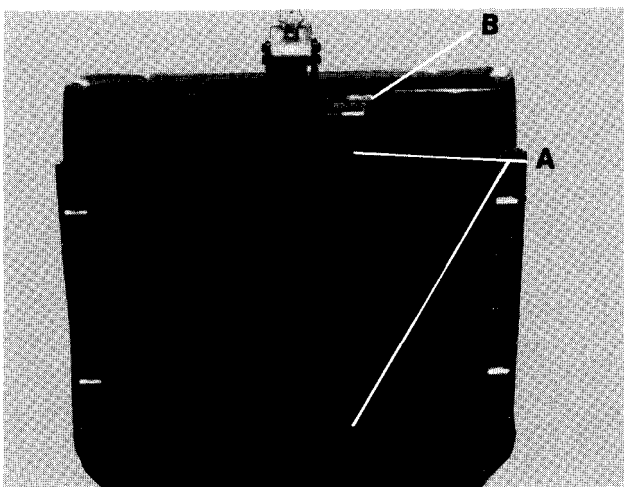

Fig. 4
If a part replacement should be required, the part must be ordered direct from the factory. When any part is ordered, a complete description or part number is required, along with Serial Number and date of installation of the table must be supplied. For details of the exchange plan, write the plant. (For location of serial number tags for Models 116 and 119 see Item B, Fig. 4).
- 1) Remove the metal panel from the metal back frame by removing (4) small screws. Item A, Fig. 4.